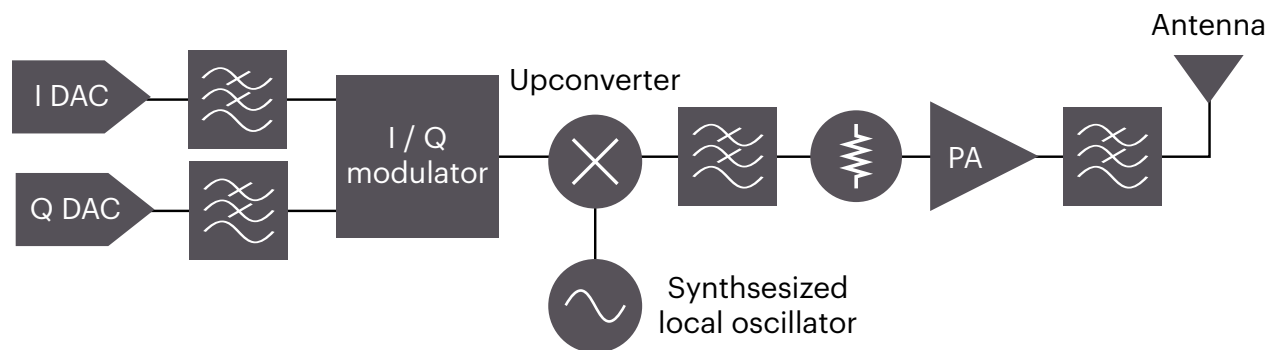

Figure 1. Diagram of a typical RF signal path, including a power amplifier
The power amplifier (PA) is essential to modern RF communication chains, shown in Figure 1. As such, the PA is a critical determining factor of transmission quality and battery life for 5G transmitters.